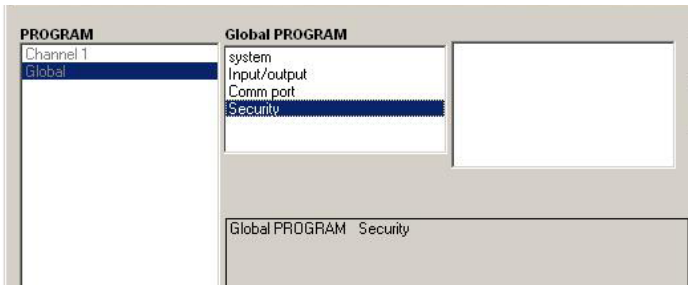

Figure 46: Global menu with security option highlighted
1. In the *site data menu*, double-click on the global entry. If the system is unlocked, the window appears similar to *Figure 46* below. Highlight and double-click on the security option in the center pane.